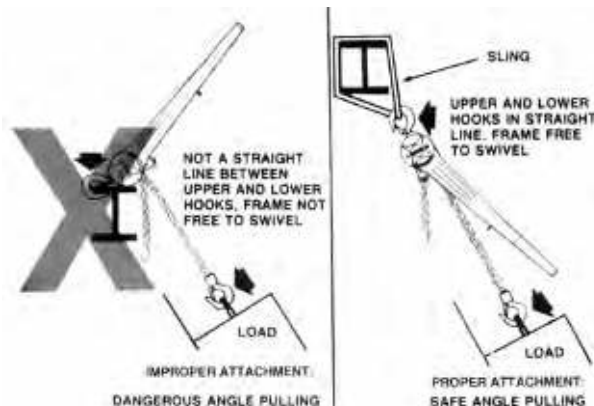

Figure 4. Angle Pulling
TO AVOID INJURY: RIG THE UNIT IN A STRAIGHT LINE HOOK TO HOOK MANNER AND KEEP FRAME FREE TO SWIVEL - SEE FIGURE 4.
**Attaching Load** - As discussed in installation section, attach load so that upper and lower hooks are in a straight line with the frame free to swivel on upper hook. If proposed use prevents straight line attachment, use an Anchor Sling (see page 2) or chain sling to obtain a straight line pull. Refer to Figure 4.
13. Do not operate the hoist unless it is rigged to pull in a straight line from hook to hook, and the frame is free to swivel on the upper hook. Refer to Figure 4.